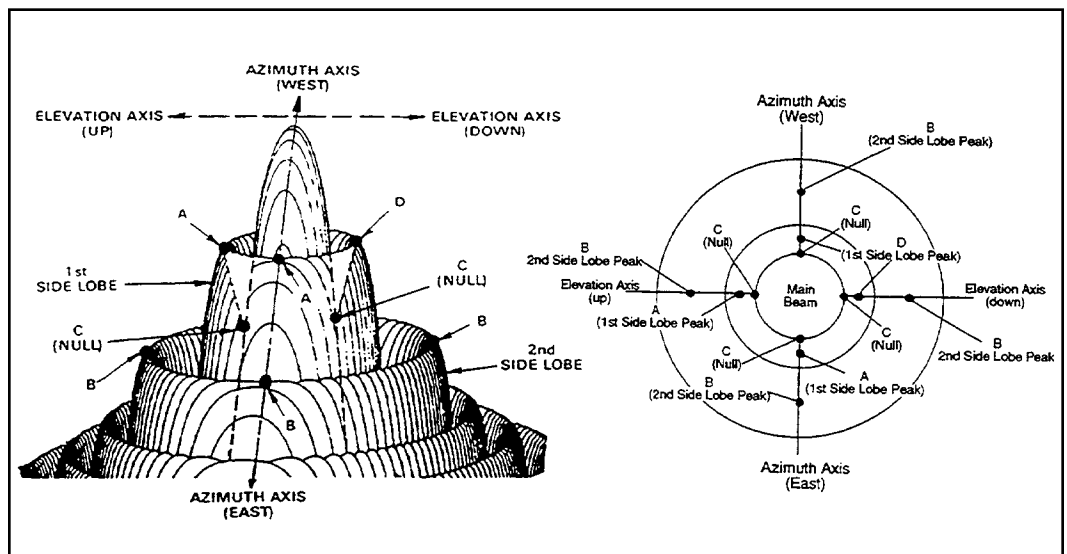

Figure 4-2: Antenna Radiation Pattern Topographical Diagram with Plan View
Step 6 With the antenna peaked in azimuth and/or elevation, check to see if you're peaked on a sidelobe. Move the antenna in azimuth while observing the spectrum analyzer screen. Refer to Figure 4-2.